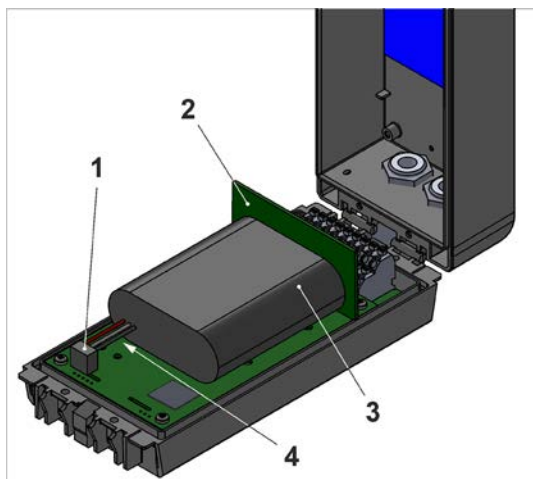

Fig. 48-2 Rechargeable battery replacement
2. Disconnect the rechargeable battery plug (Fig. 48-2 Pos. 1).